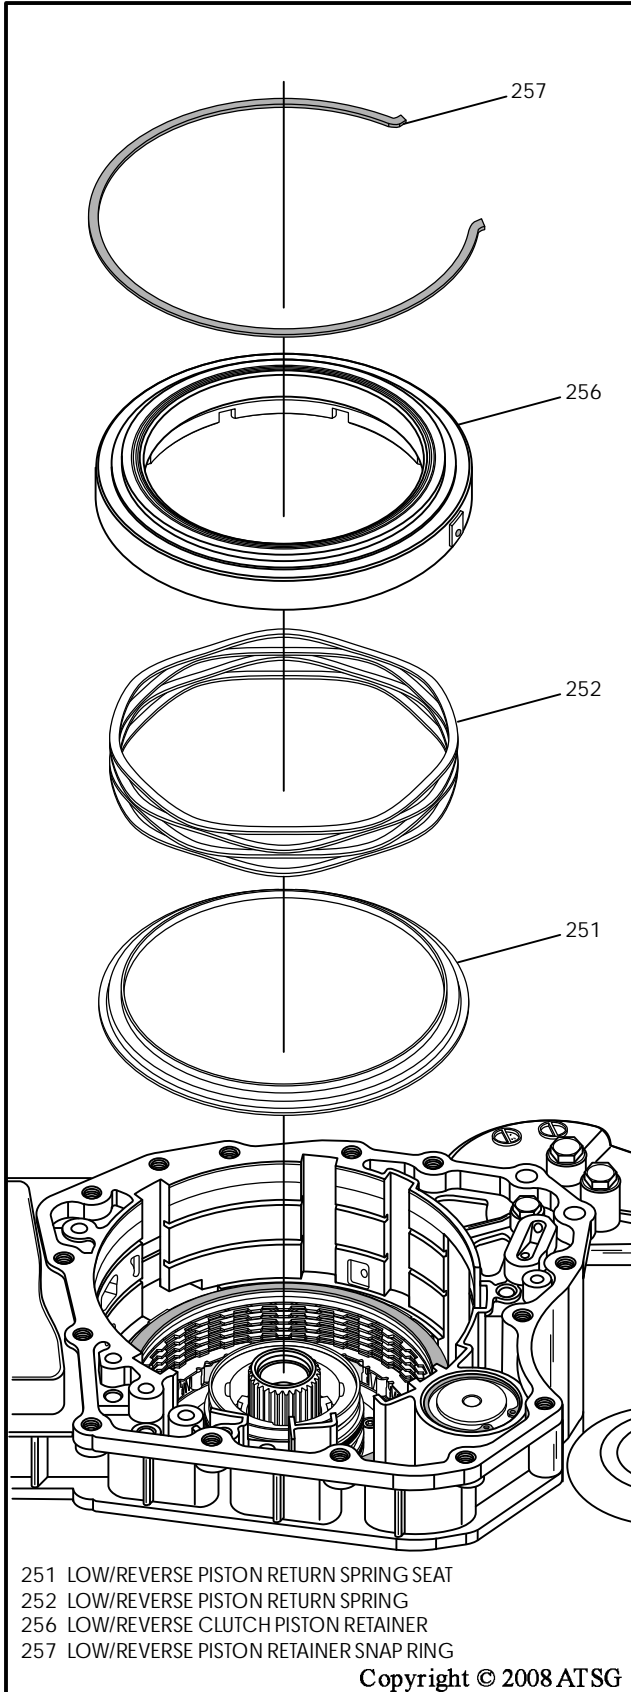

Figure 61
78. Remove the low/reverse clutch retainer snap ring, as shown in Figure 61.
80. Remove low/reverse clutch retainer assembly, as shown in Figure 61.
81. Remove the low/reverse clutch piston return spring and spring seat, as shown in Figure 61.